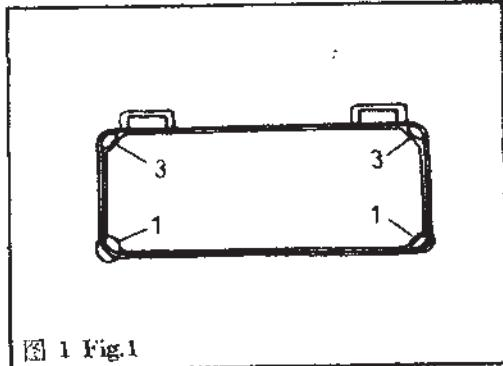
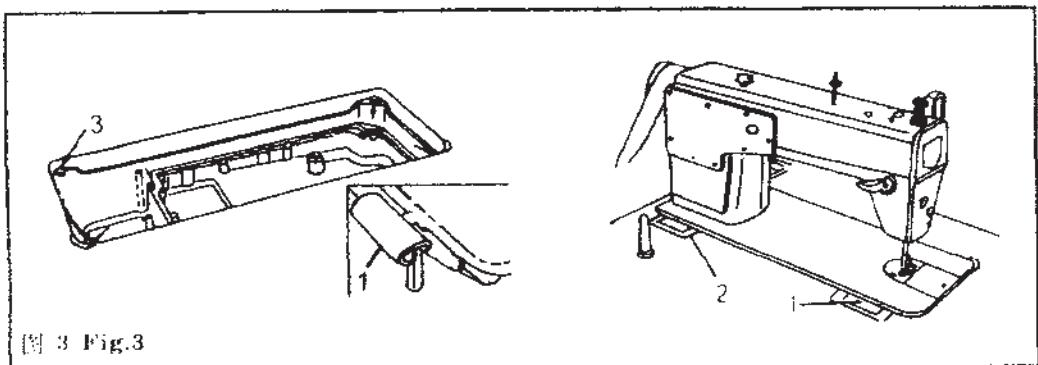

图 1 Fig.1
图 3 Fig.3
将两只油盘支座 1 和两只油盘座垫 3 分别装在台板凹槽的四角，用油盘座钉 2 固定之，再装上油盘 4。（图 1、2）
将机头连接钩 1 插入机壳底板孔内，与台板上的机头连接钩座 2 相嵌合，再将机头放到四只角的机头座垫 3 上。（图 3）
(2) Fitting oil pan:
Put the oil rubber cushions (1) and oil pan felt cushions (3) separately on four corners of notch of the table, fix them with the screw of oil pan(2), then install the oil pan(4). (Fig.1,2)
(3) Fitting machine head:
Put the machine head connecting hooks (1) into the bed holes to engage respectively two hinges (2) stated in the table, then place the machine on the four cushions (3). (Fig.3)